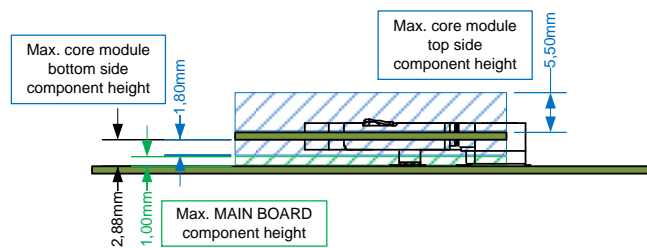

Figure 25: Maximum component heights
- Figure 25 shows an example with 5,2mm SODIMM-200 socket height.